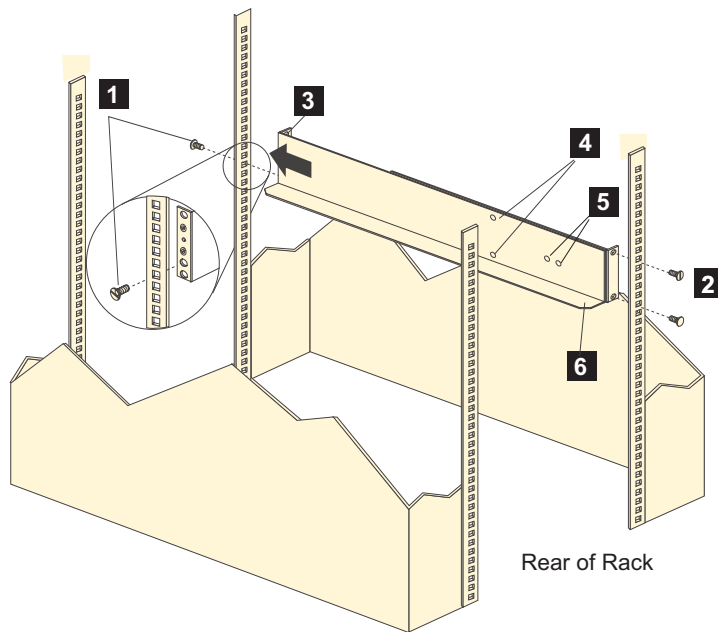

Figure 17. Installing the support rails
**Note:** Refer to Figure 17 on page 34 while performing these steps.
**Note:** The support rails are not marked as Left or Right. However, each rail can be correctly mounted on only one side of the rack cabinet. The rails should be mounted with the alignment pins at the back of the rack. Figure 17 on page 34 shows the installation of the left support rail.